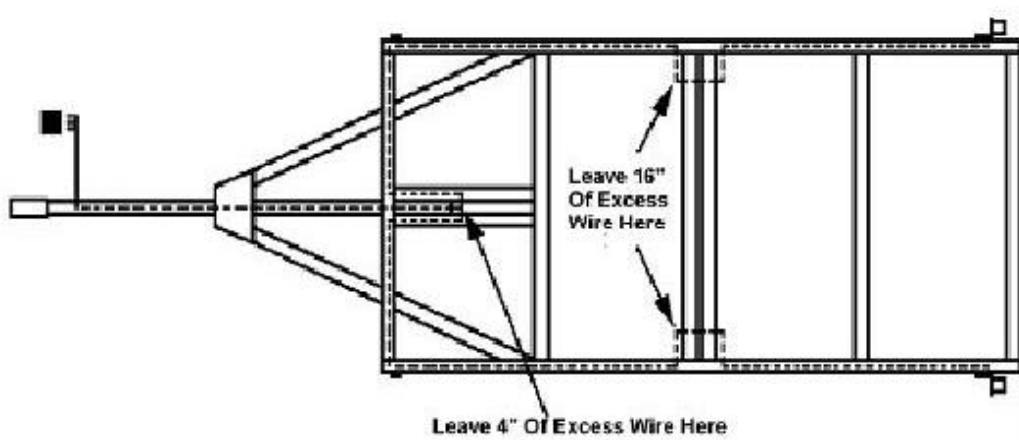

Figure 9-3
7. Route the harness through the tow bar. See figure 9-3.
8. Route the green/brown wires down the right side frame rail. See figure 9-3.
9. Route the yellow/brown wires down the left side frame rail. See figure 9-3.